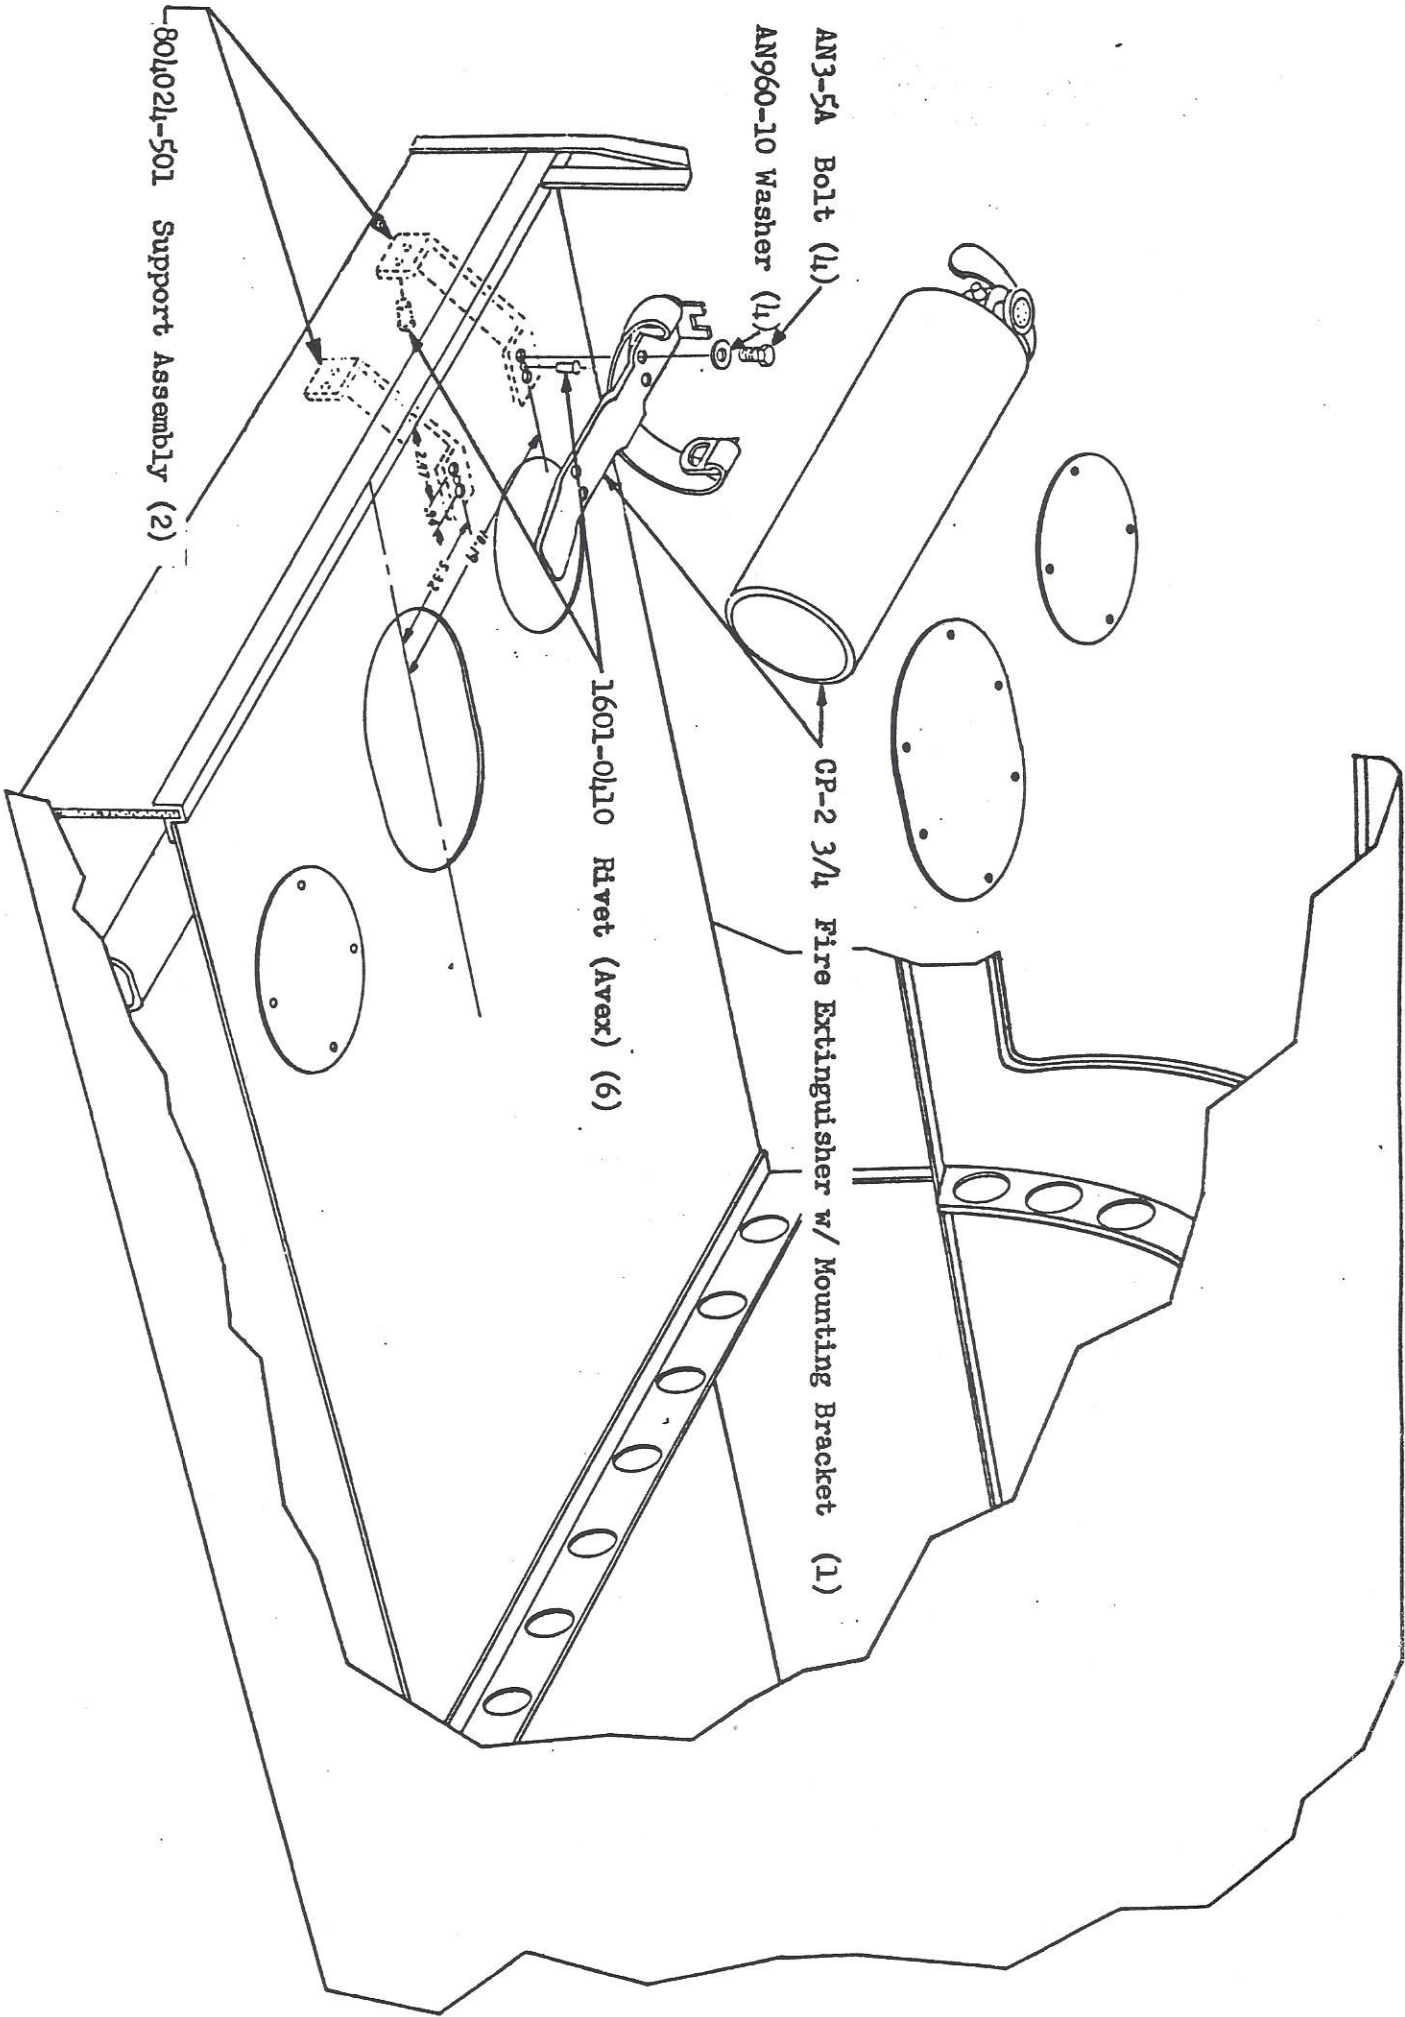

Figure 1. Fire Extinguisher Installation
Installation Instructions (Refer to figure 1)
- b. Locate top mounting holes from this center line as shown in figure 1.